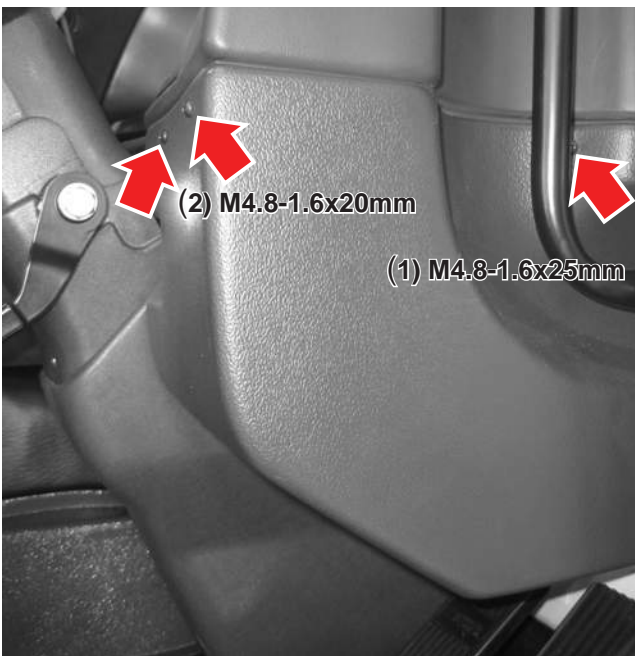

Figure 19-1
1. Align the lower RH instrument panel trim panel with mounting spring nuts on the upper instrument panel (see Figure 19-1).
2. Reinstall the three sheet metal screws, ensuring they are driven through the spring nuts (see Figure 19-1).